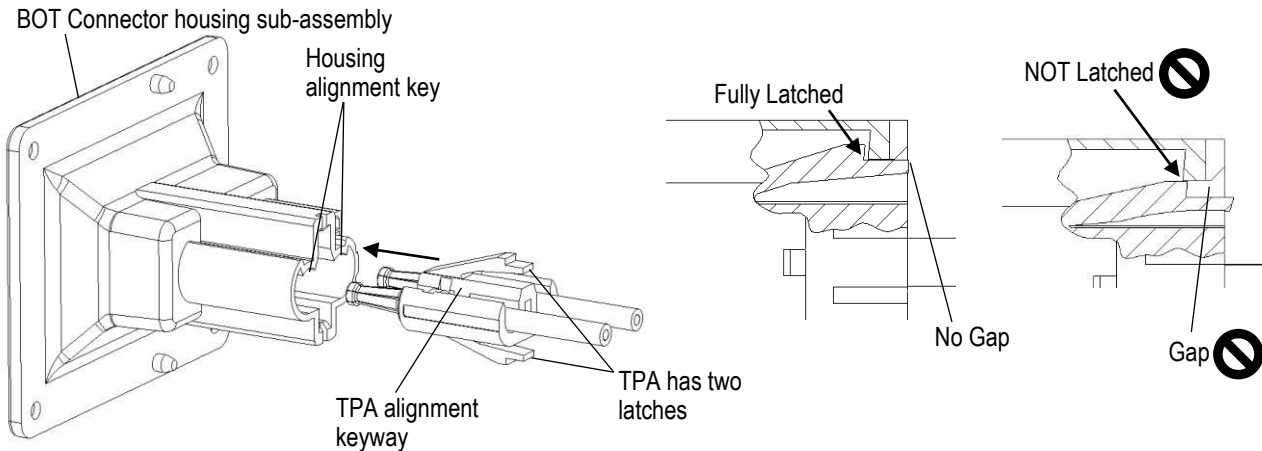

Figure 5
A. With the power contacts assembled into the TPA, this assembly can be latched into the AMR BOT/Charger connector housing sub-assembly. Housing has a TPA alignment key, which only allows the TPA assembly to be inserted one direction. TPA assembly inserts into the housing with the mating end of the power contacts leading. TPA assembly is inserted into the housing until both TPA latches fully engage the housing latch ledge. Care must be taken to ensure **both** TPA latches are latched. AMR BOT and Charger have same TPA assembly method. See figure 5.